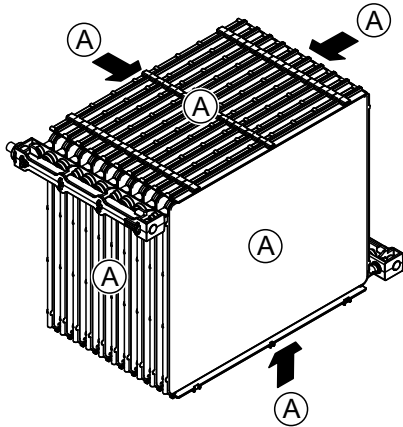

Fig. 16: Diaphragm surface
7. Check diaphragm surface "A" (see Fig. 16) of the humidifier insert for traces of dust, discolouration and check the duct for contamination and water residue.